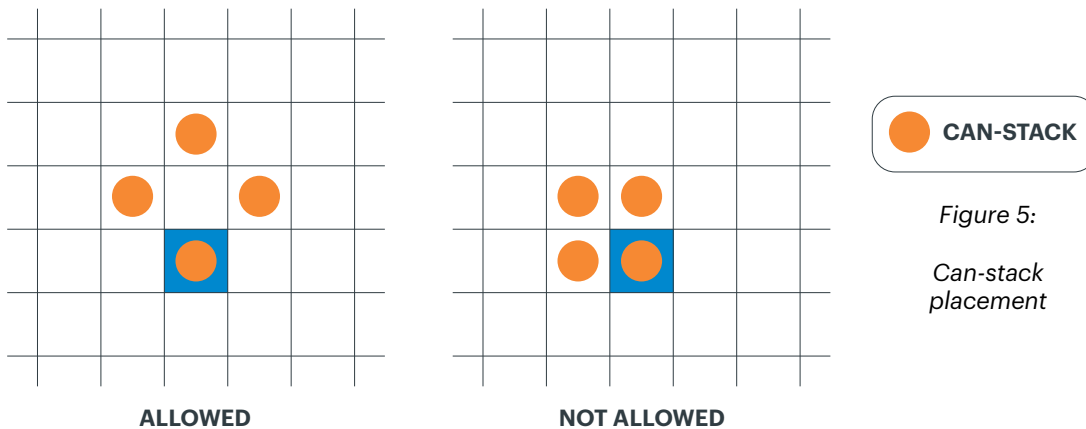

Figure 5:
6. No two can-stacks can be placed in adjacent grid-cells. Placement in grid-cells that are diagonal to each other is allowed (see Figure 5).